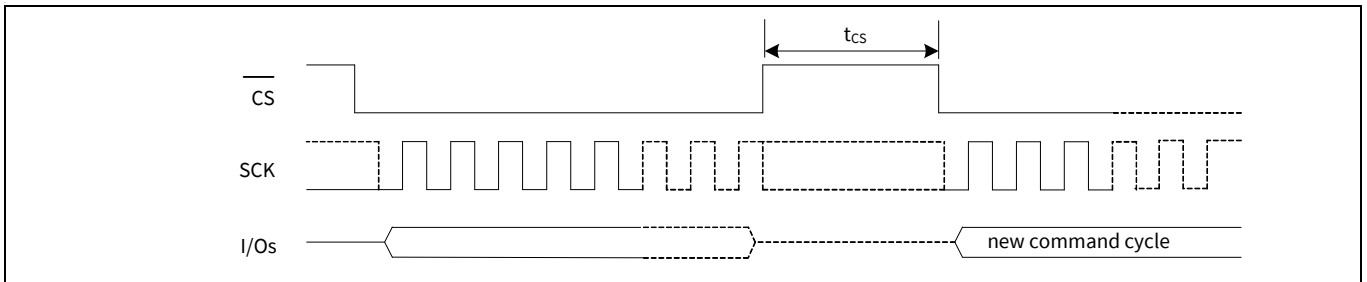

Figure 116 Chip deselect ($\overline{\text{CS}}$ HIGH) - t_{CS} timing
21. t_{CS} is the minimum chip deselect (\overline{CS} HIGH) time before the new command cycle starts in a specific SPI mode (SPI, DPI or QPI). This parameter ensures that previous operation is successfully completed before the host starts a new command cycle. Refer to **Figure 116**.
- 21. t_{CS} is the minimum chip deselect (\overline{CS} HIGH) time before the new command cycle starts in a specific SPI mode (SPI, DPI or QPI). This parameter ensures that previous operation is successfully completed before the host starts a new command cycle. Refer to Figure 116.
25. t_{CS} is the minimum chip deselect (\overline{CS} HIGH) time before the new command cycle starts in a specific SPI mode (SPI or QPI). This parameter ensures that previous operation is successfully completed before the host starts a new command cycle. Refer to Figure 116.